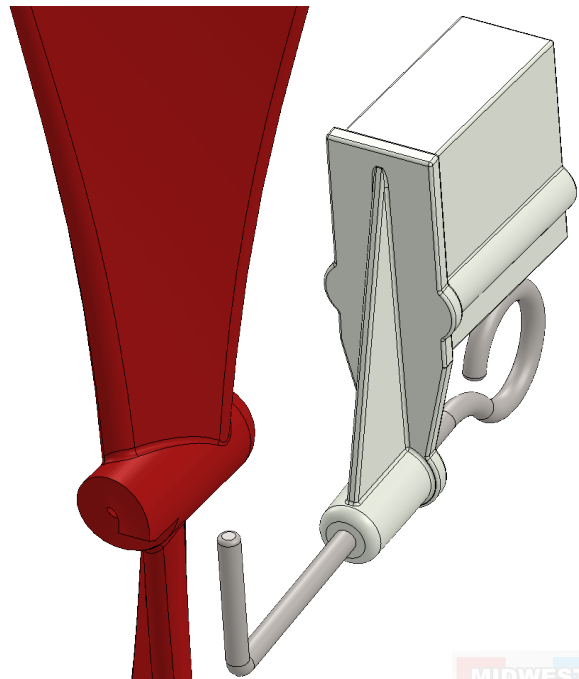

Fig. 8
Step 4. Place Propeller as positioned in **Fig. 8**.